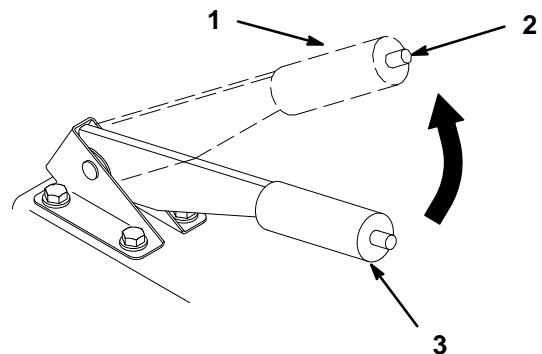

Figure 2
2. Pull up on the parking brake lever to set the parking brake (Fig. 2). The parking brake lever should stay firmly in the “SET” position.
1. Push in on the button and lower parking brake lever to “OFF” (Fig. 2).